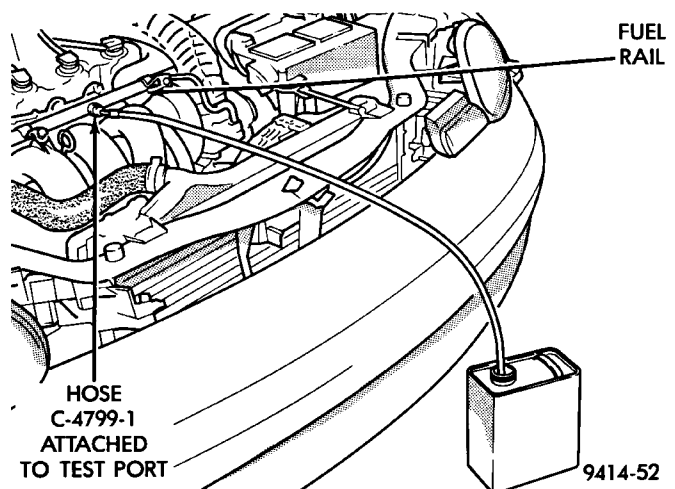

Fig. 12 Releasing Fuel Pressure
- (5) Place the open end of fuel pressure release hose, tool number C-4799-1, into an approved gasoline container. Connect the other end of hose to the fuel pressure test port (Fig. 12). Fuel pressure will bleed off through the hose into the gasoline container. Fuel gauge C-4799-A contains hose C-4799-1.